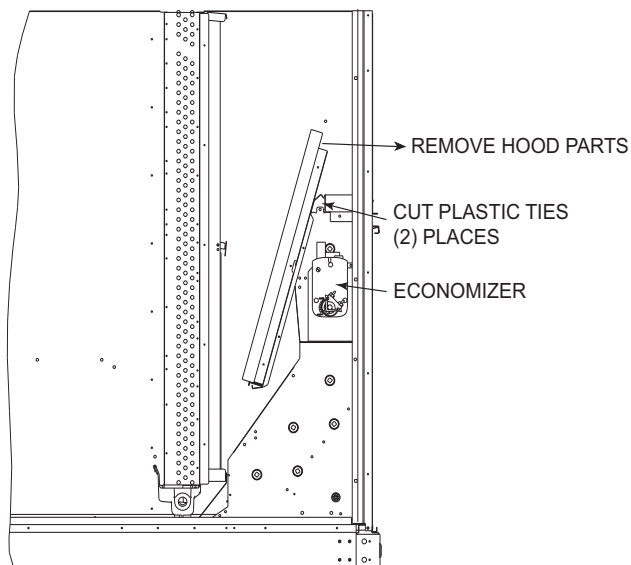

Fig. 13 — Economizer Hood Package Location
Locate the carton containing the outside air hood parts; see Fig. 13 and 14. Do not remove carton until unit has been rigged and located in final position.
3. Locate and cut the (2) plastic tie-wraps, being careful to not damage any wiring. (See Fig. 13.)